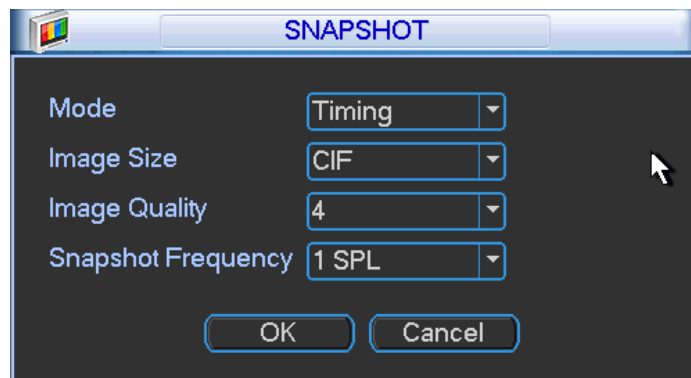

Figure 3-40
- Snapshot: Click snapshot button, you can set snapshot mode, picture size, quality and frequency. See Figure 3-40. **Before the snapshot operation, please make sure the front-end device supports current operation.**